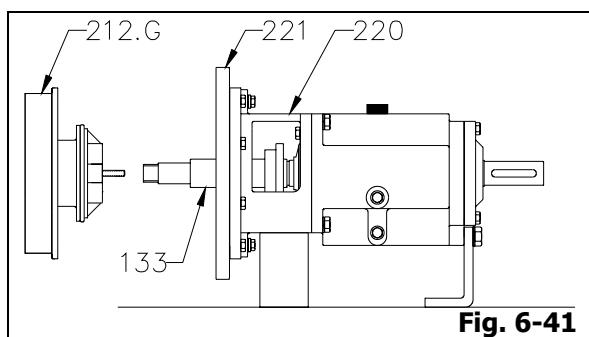

Fig. 6-41
3. Remove all stuffing box cover bolts (where applicable). By holding shaft sleeve (133) in place, slowly lift off stuffing box cover (212.G) assembly from frame adaptor (220) or adaptor extension ring (221) (Fig. 6-41).